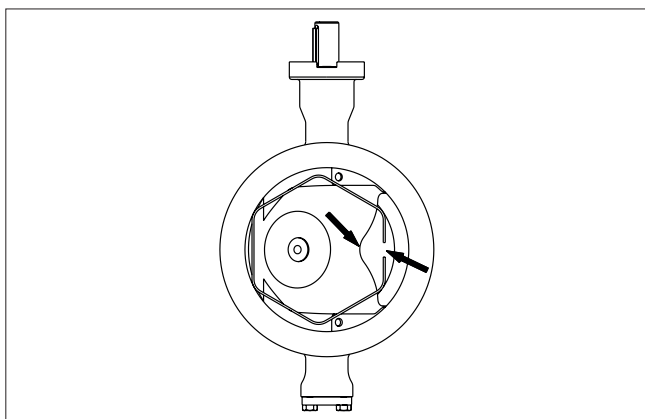

Fig. 27 Mounting the seat
- Place the lock spring (5) on the seat.
- When the valve is opened, the ends of the spring must be by the V-shaped opening, see Fig. 27.